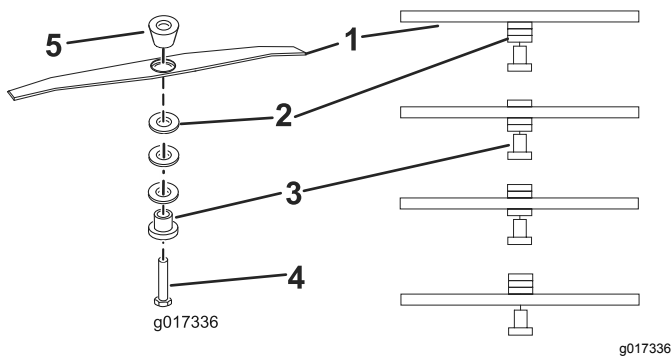

Figure 12
5. Reposition the spacers to the desired height, reinstall the blade retainer and spacers (Figure 12,) and tighten the bolt to 25 N-m (18 ft-lbs).